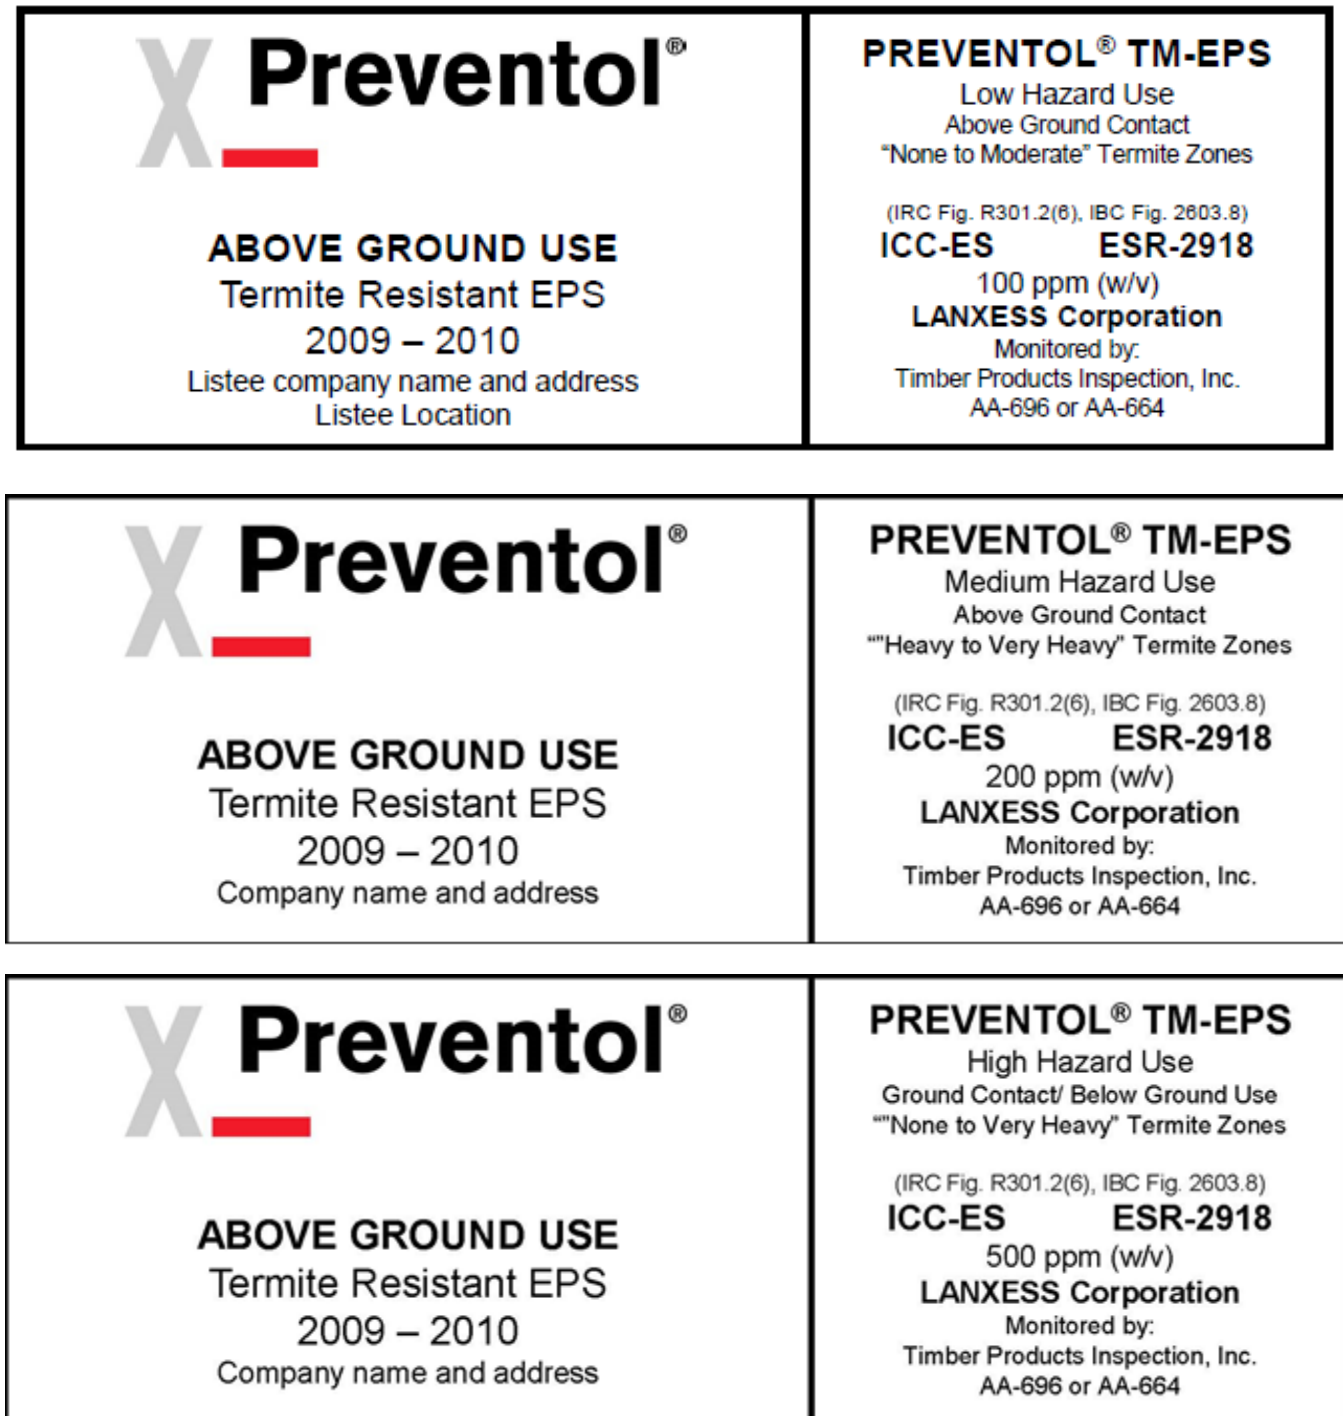

FIGURE 1—SAMPLE PRODUCT LABELS1,2
- 5.4** ICC-ES evaluation reports using PREVENTOL® TM-EPS must include Table 1 and Figure 1 of this evaluation report.
7.1 EPS boards treated with LANXESS Corporation’s PREVENTOL® TM-EPS must be labeled with the name of the inspection agency; the product name (PREVENTOL® TM-EPS) or logo (see Figure 1); the name of the EPS foam board manufacturer and plant location; the intended end use; and the evaluation report number (ESR-2918). Sample labels are shown in Figure 1.